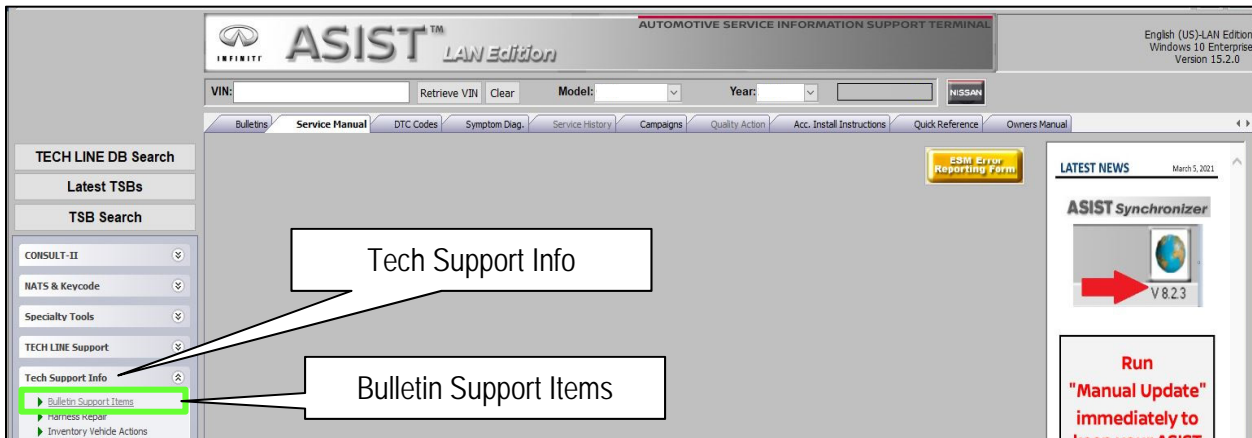
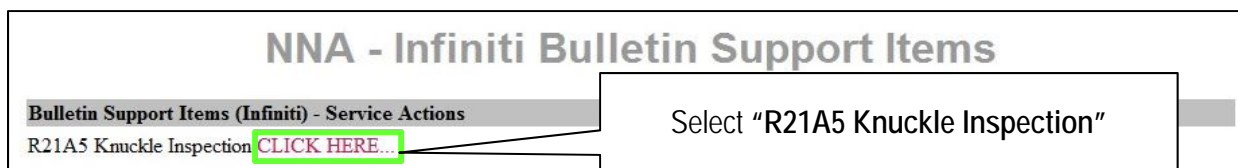

Figure 29
Figure 30
19. Open the ASIST form found at **ASIST > Tech Support Info > Bulletin Support Items > R21A5 Knuckle Inspection** (see Figure 29 and Figure 30).